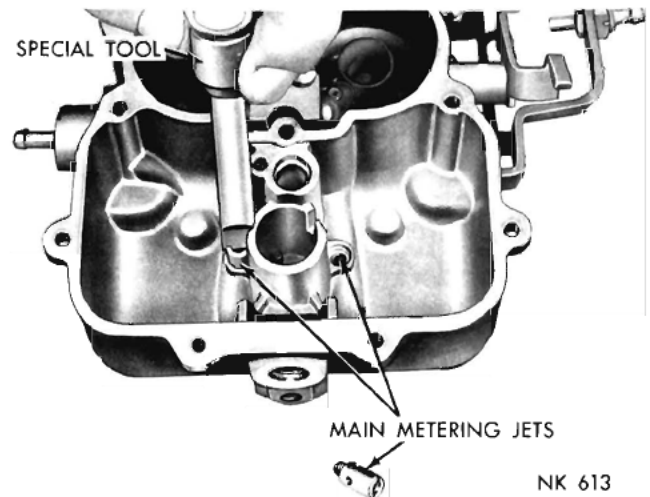

Fig. 3—Removing or Installing the Main Metering Jets
speed. Repeat steps 2 and 4 above if necessary. After the proper idle speed has been obtained, refer to (Fig. 3) of the Throttle Linkage Group in this Section, for the procedure on adjusting the transmission control rod.
(12) Remove the main metering jets as shown in (Fig. 3).
(5) Install new gaskets on the venturi cluster, and install in position in the main body. Install the cluster screws and tighten securely. Test pump discharge by pressing pump plunger down. Two fine streams of fuel should be forced from the cluster. If either stream is restricted or diverted, remove cluster and reclean. After test, pour the fuel from the bowl and remove pump plunger.
(6) Install the main metering jets. Tighten securely. Refer to (Fig. 3).